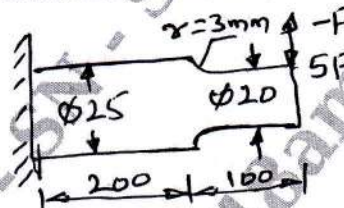

Fig.Q1(c)
c. A cantilever beam is C-45 steel is subjected to completely reversed bending load varying from $5F$ to $-F$ as shown in Fig.Q1(c). Determine the maximum load the member can carry for infinite life. Take $\sigma_y = 353$ MPa and $\sigma_u = 640$ MPa for the material. Assume $FoS = 2$.